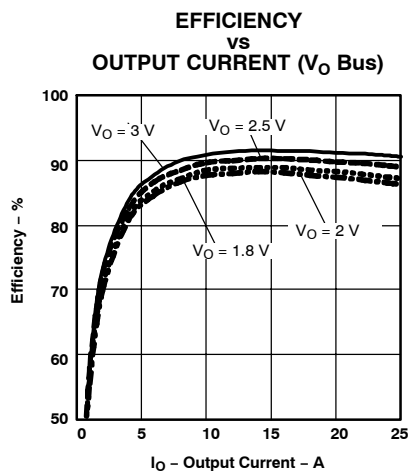
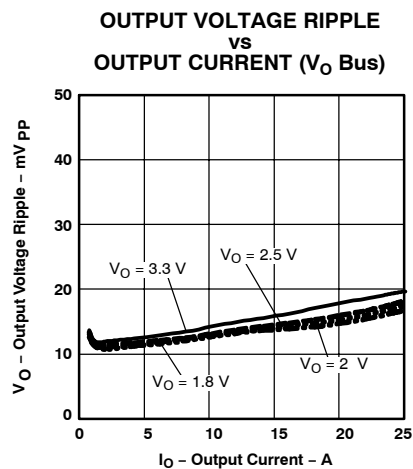

Figure 1.
Figure 2.
- (1) All data listed in Figure 1, Figure 2, and Figure 3 have been developed from actual products tested at 25°C. This data is considered typical data for the dc-dc converter.